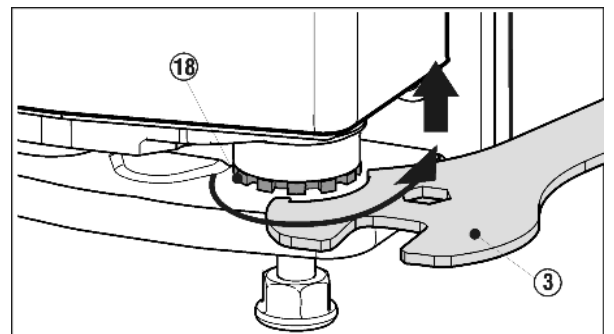

Fig. 12
- ▶ To raise the door, turn the bearing pin *Fig. 12 (18)* clockwise using the accompanying open-ended spanner *Fig. 12 (3)*. In the as-delivered state, the bearing pin is fully retracted.